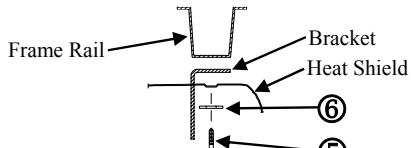

Figure 4
- Reinstall heat shield using existing fasteners, except over hitch bracket use new M6 hex bolt and flat washer supplied with hitch (see Figure 4).